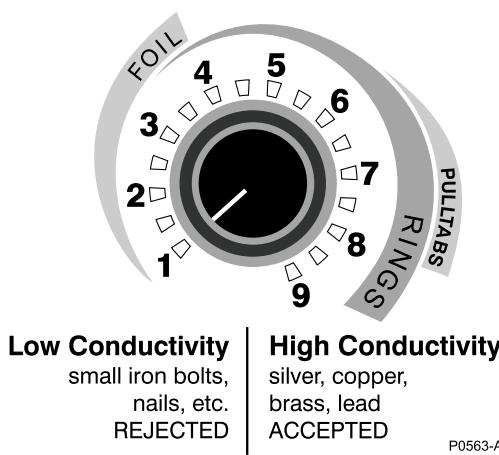

Figure 10 - Discrimination Level Adjust control examples
In "Discriminate" mode, the *Advantage* will discriminate most ferrous objects and only provide a signal for a non-ferrous object. If the Level Adjust is set to "1" as shown in Fig 10, page 14 (large ferrous objects may produce short "pops" or "clicks"). Non-ferrous objects will give a normal "signal beep" and be "accepted".
The setting of the Discrimination Level Adjust is relative to the types of objects that you wish to hunt for, and the amount of trash that you are prepared to detect. If you do not want to dig old bottle caps but want to dig brass buttons or copper coins, the Discrimination Level Adjust control is set higher (approximately at number 7 in Figure 10) but most fine white gold rings, foil and some yellow gold rings will also be ignored.
- b) Turn the Discriminate control to approx. "1" position (Fig 10, page 14).